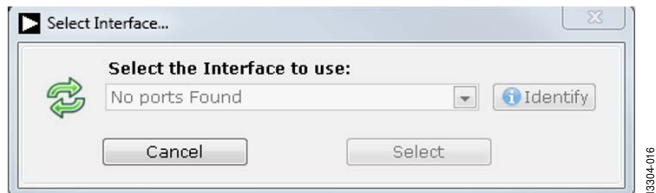

Figure 16. Connectivity Error Alert
2. If the AD7124-4 evaluation system is not connected to the USB port via the EVAL-SDP-CB1Z when the software is launched, a connectivity error displays (see Figure 16). Connect the evaluation board to the USB port of the PC, wait a few seconds, click **Rescan**, and then follow the on-screen instructions.